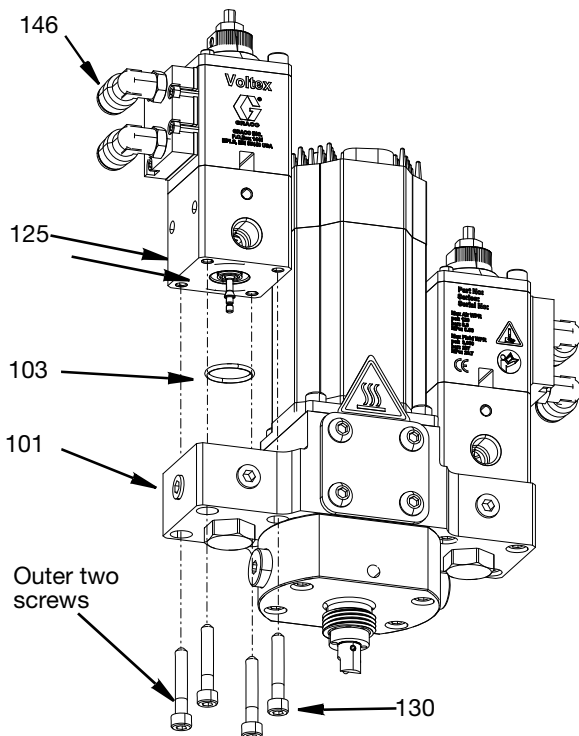

FIG. 41
3. Remove the 5/16" round nylon tubes (141) from the elbow fittings (146).
4. Remove the two outer screws first then the inner two screws (130) holding the valve (125) to the base housing (101) using a 4 mm allen wrench.
5. Remove the O-ring packing (103). See FIG. 41.